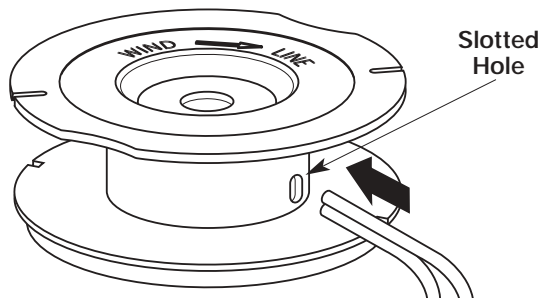

Fig. 14
6. Cut two (2) equal lengths of new trimming line approximately 10 feet (3 m) long.
7. Holding the two pieces of line together with the ends even, insert the ends into the slotted hole in the inner reel (Fig. 14). Approximately 1/2 inch (12.7 mm) of the line will fit in the hole. Do not force line into the hole.
9. Cut approximately 10 feet (3 m) of new trimming line. Insert one end of the line into the slotted hole in the inner reel (Fig. 14). Only about 1/2-inch (13 mm) of line will fit into the hole. Do not force line into the hole.